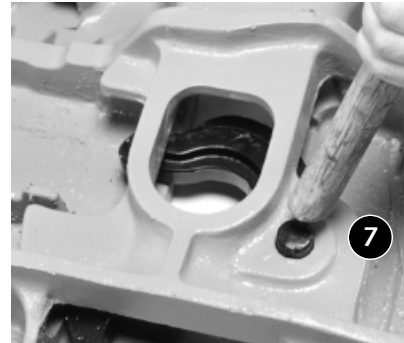

Figure 70
- Reach under the fifth wheel plate to catch the jaw pin while tapping out the jaw pin (*Figure 70*).